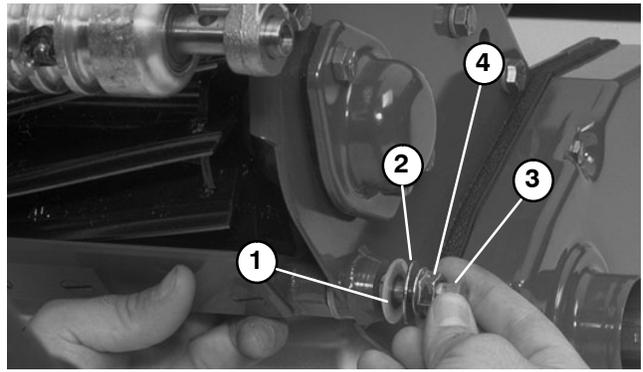

Figure 31
4. Put anti-seize lubricant on the threads of bedbar bolts. Install nylon washer, metal washer, and bedbar bolt to both sides of the frame (Fig. 31).